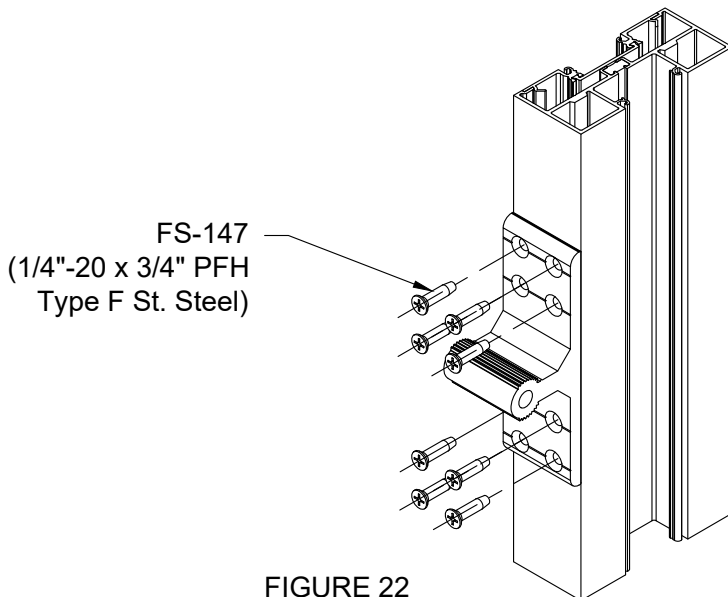

FIGURE 22
- 2) Install anchor onto face of mullion using eight FS-147 (1/4"-20 x 3/4" PFH Type F Stainless Steel) fasteners. SEE FIGURE 22